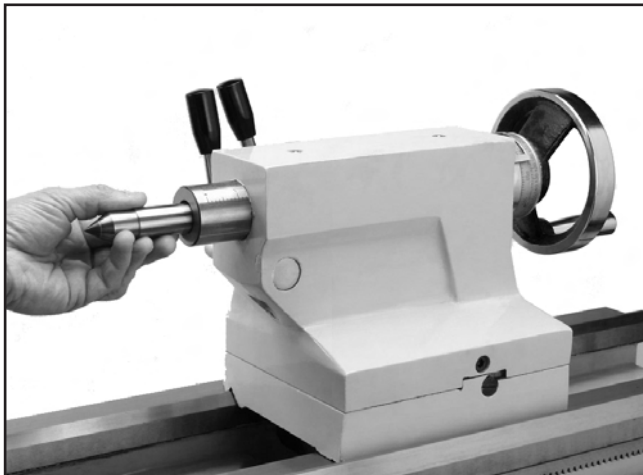

Figure 39. Inserting dead center.
2. Insert the dead center into the quill opening. Matching tapers provide the locking action (see **Figure 39**).